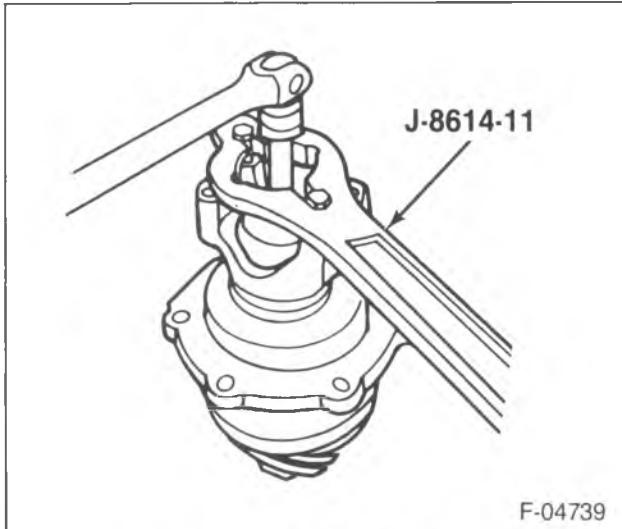
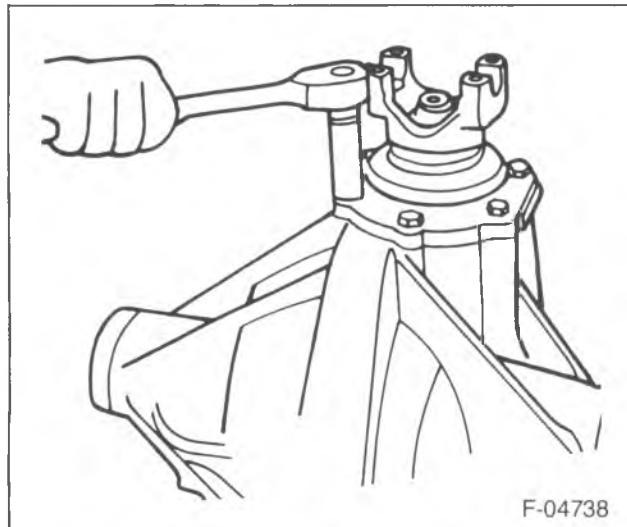

Figure 5—Drive Pinion Nut Removal
Figure 4—Removing the Pinion Cage
- 16. Pinion assembly cage bolts (7) and washers (8) (figure 4).
- 17. Pinion assembly cage (10).
- 18. Pinion cage shims (11).
- 19. Pinion flange nut (1) and washer (2) using J 8614-01 to hold the flange (figure 5).